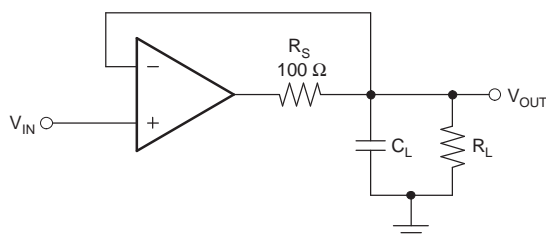
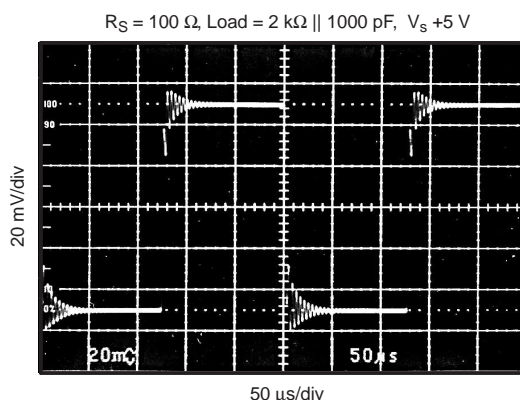
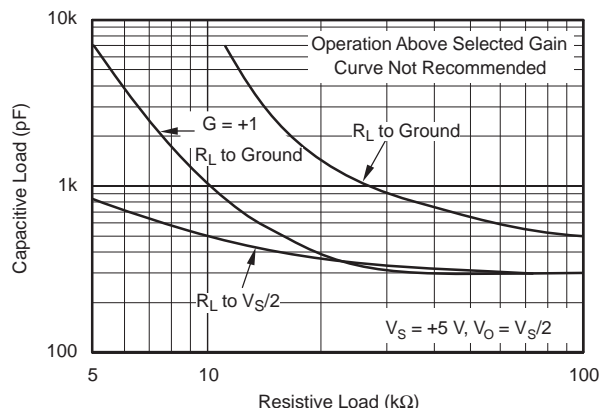

Figure 3. Series Resistor in Unity-Gain Configuration Improves Capacitive Load Drive
Figure 4. Small-Signal Step Response Using Series Resistor to Improve Capacitive Load Drive
Figure 5. Stability — Capacitive Load vs Resistive Load
One method of improving capacitive load drive in the unity-gain configuration is to insert a 50-Ω to 100-Ω resistor inside the feedback loop (see Figure 3). This reduces ringing with large capacitive loads, while maintaining direct current (DC) accuracy. For example, with $R_L = 25\text{ k}\Omega$, OPA336 performs well with capacitive loads in excess of 1000 pF (see Figure 4). Without the OPA336 R_S , capacitive load drive typically is 350 pF for these conditions (see Figure 5).
Figure 5 shows the recommended operating regions for the OPA336. Decreasing the load resistance generally improves capacitive load drive. Figure 5 also shows how stability differs, depending on where the resistive load is connected. With $G = 1$ and $R_L = 10\text{ k}\Omega$ connected to $V_S/2$, the OPA336 typically can drive 500 pF. Connecting the same load to ground improves capacitive load drive to 1000 pF.